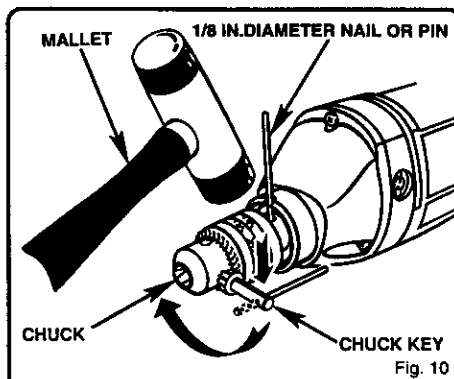

Fig. 10
See Figures 10, 11, and 12.
4. Insert chuck key into chuck and tap sharply with a mallet in a clockwise direction. See Figure 10. This will loosen the screw in the chuck for easy removal.